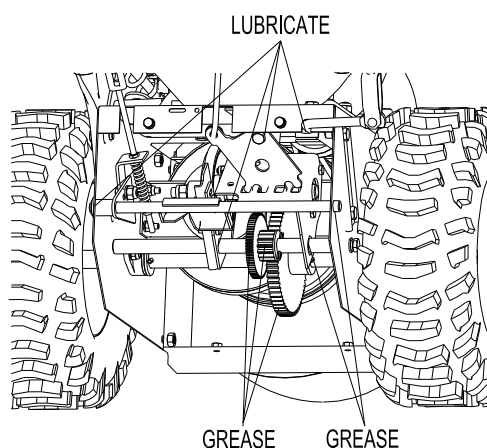

FIG 25
6.8.4 Lightly lubricate the snow thrower with light oil, wipe up any excess oil. (FIG 25)